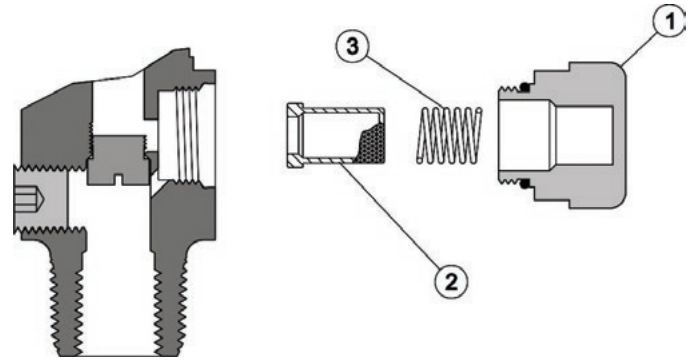

Figure 14: Inspecting the Inlet Screen
1.2 Inspecting the Inlet Screen (refer to Figure 14)